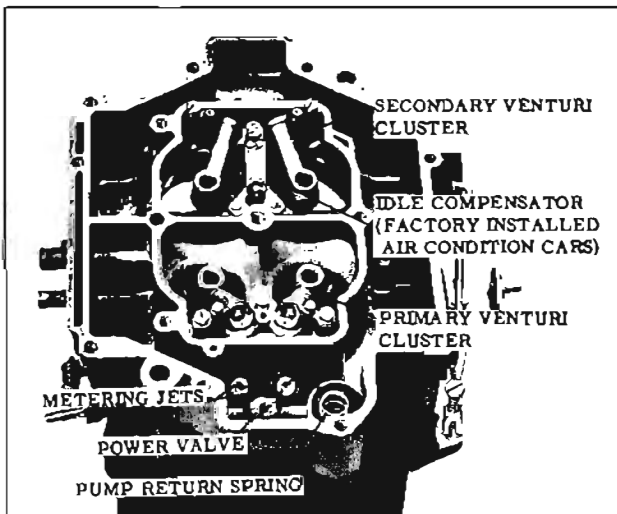

Fig. 9-180 Float Bowl Assembly
6. Install the power valve and gasket, and the two primary main metering jets. (Fig. 9-180)